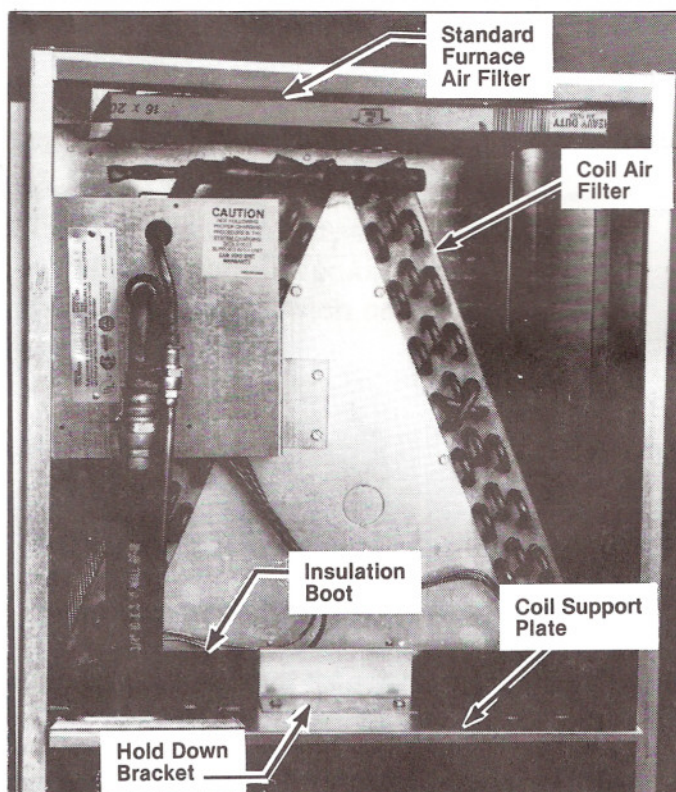

Figure 9. "A" Coil
6. Install the A-Coil in the furnace cabinet (See Figure 9):